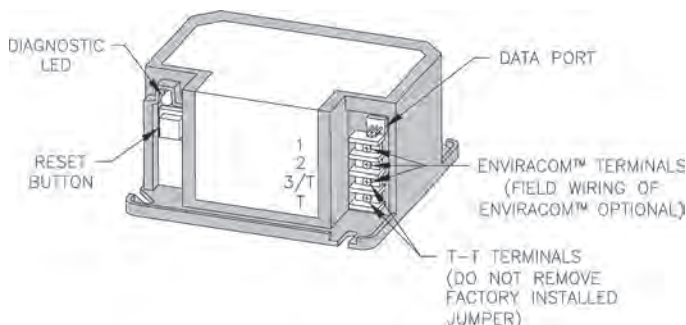

Figure 36: R7184 Terminals, LED and Reset Button
- v. T-T Jumper: Select models have pre-installed T-T jumper. Do not remove jumper. (See Figure 36).
- i. The R7184 is a microprocessor-based control. The indicator light provides diagnostic information for lockout, recycling and patented cad cell status. There is a manual reset button to exit the Lockout Mode and enter the Idle Mode (see Figure 36).